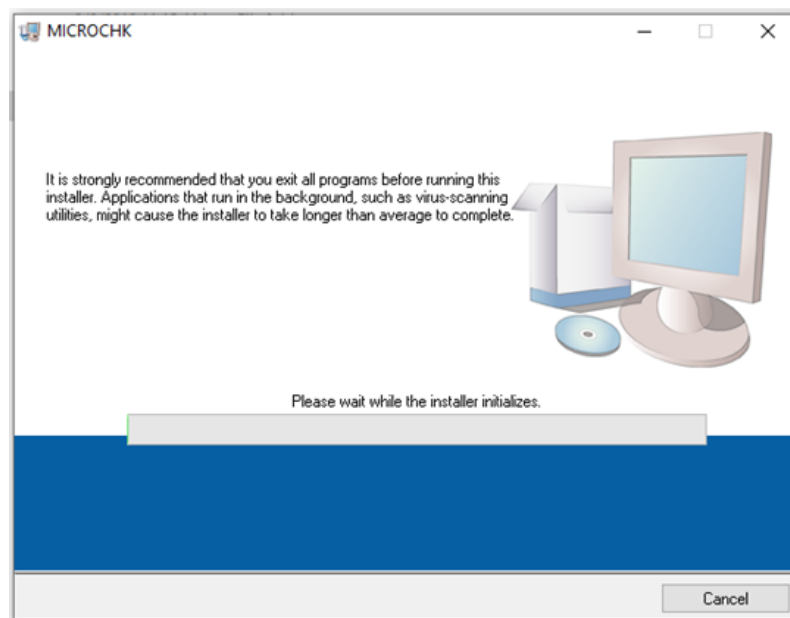

Figure 4: Installation wizard
3. The installation process will start as shown in Figure 4